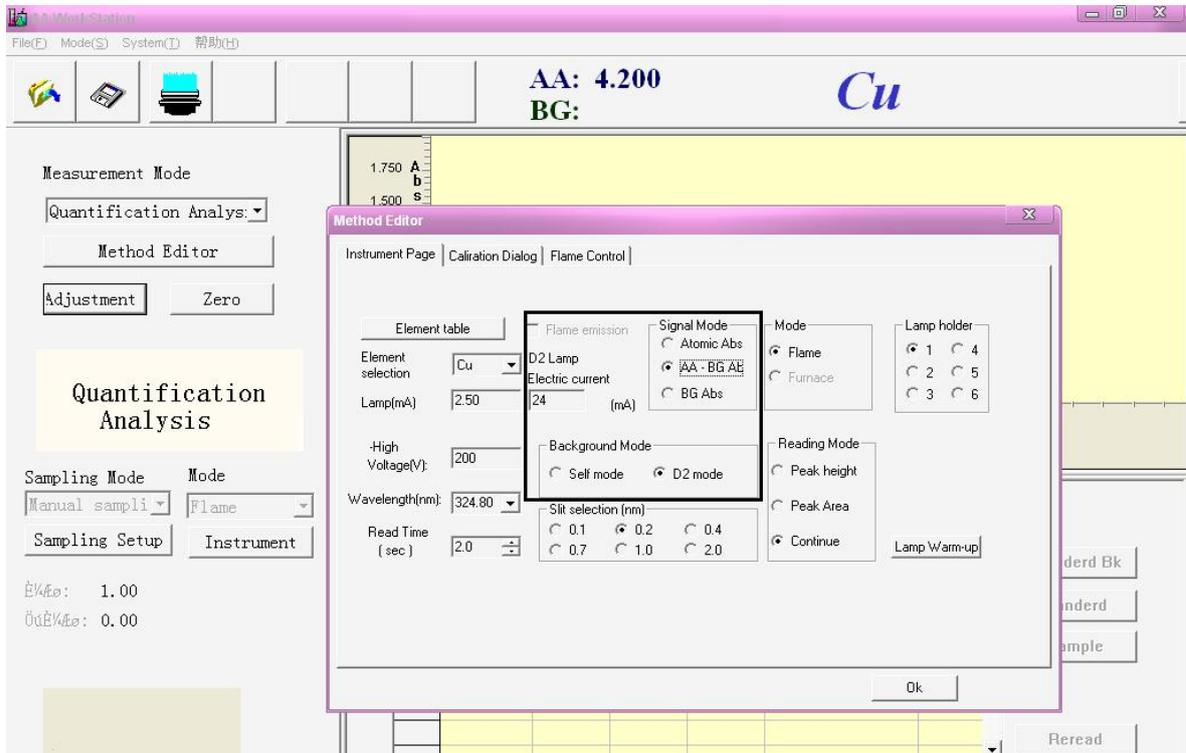

Figure 4-22
1) Select the "D2 mode" on "Background Mode", input the current value into the text box. The value is between 24-93mA (Figure 4-22)